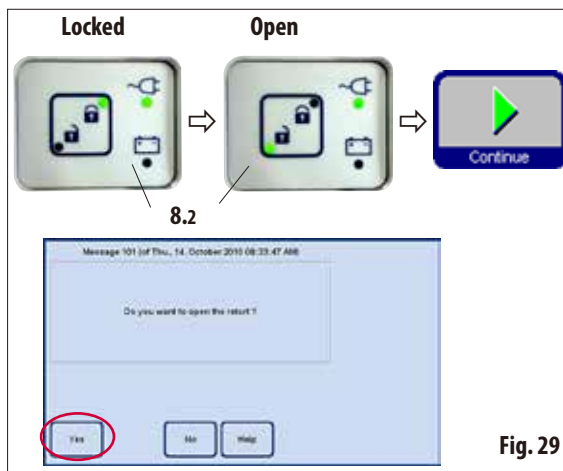

Fig. 29
- Unlock it by pressing on the unlocking mechanism switch (8.2) below the screen (Fig. 29).
- When the **YES** button is pressed (Fig. 29), the reagent vapors are removed by suction, filtered and the fluid level in the retort is lowered.